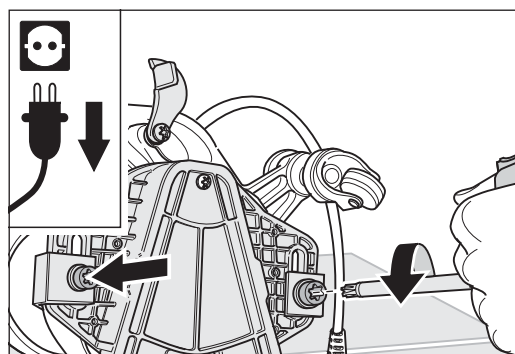

Fig. 39 Remove the two screws which connect the attachment, along with the washers and the guide angles.
- 5** Use the universal spanner to remove the two screws which connect the attachment, along with the washers and the guide angles (fig. 39). Place these parts to the side.